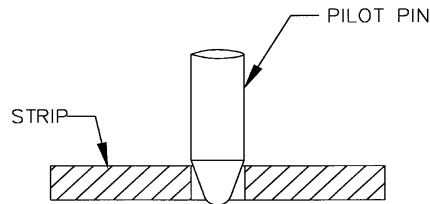
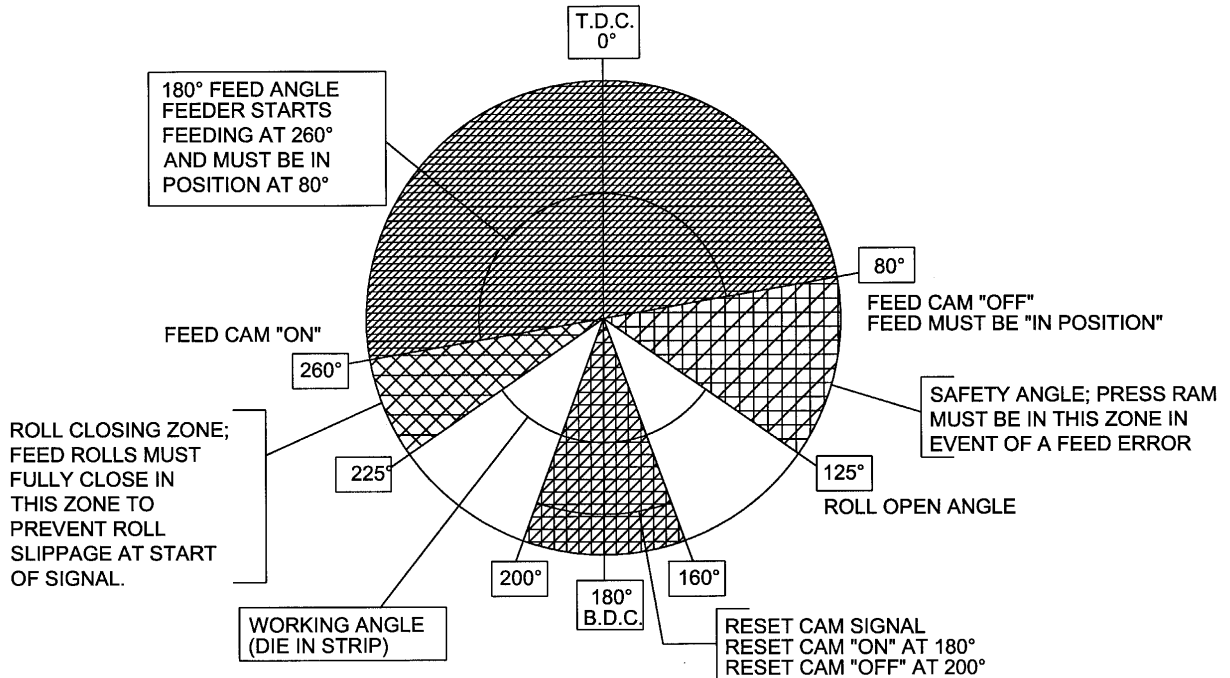

FIGURE 4
FIGURE 5
8. Jog the press down slowly observing when the longest pilot would engage the pilot hole in the material if the material were there. (Refer to Figure 4.) Note the press positional readout and put this setting into your Programmable Limit Switch (PLS) for the 'Pilot Release On' setting. The 'Pilot Release Off' setting, in most cases, should be 180°. (See Figure 5.) Some drawing applications require the rolls to remain open past 180°.
9. Continue to jog the press slowly until the longest pilot just comes out of the material. Note the press positional readout and put this setting into your PLS for the 'Feed Cam On' setting. Set the 'Feed Cam Off' point so that there is enough time to complete the feed length and enough time to stop the press, if there is a feed fault. (See Figure 5.)
10. Set the 'Reset Cam On' for 180 degrees and 'Reset Cam Off' for 200 degrees. This setting should never need changing. (See Figure 5.)